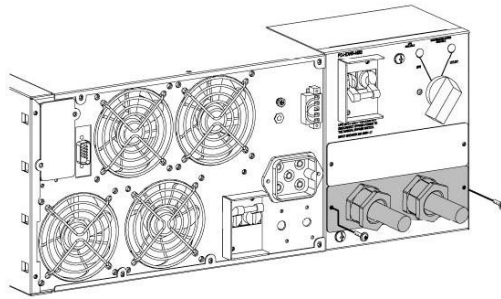

FIG 35 – HARDWIRE TERMINAL COVER RE-INSTALL 6KVA UPS
6. Re-install the terminal cover (see FIG 35 or 36)